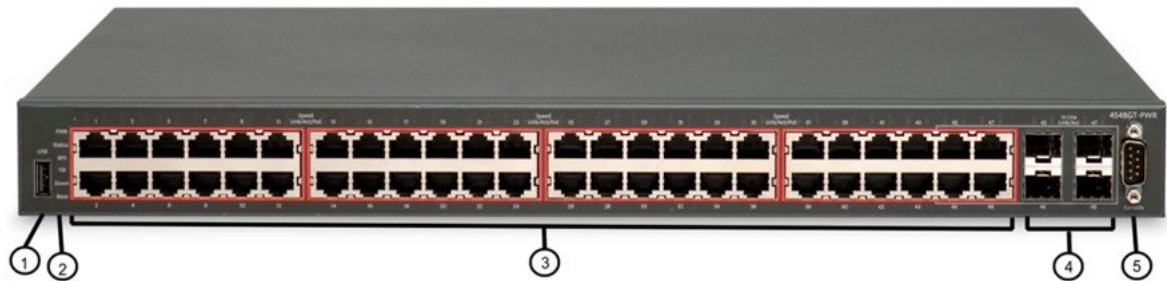

Figure 8: Avaya Ethernet Routing Switch 4548GT-PWR
- Figure 8: Avaya Ethernet Routing Switch 4548GT-PWR on page 46